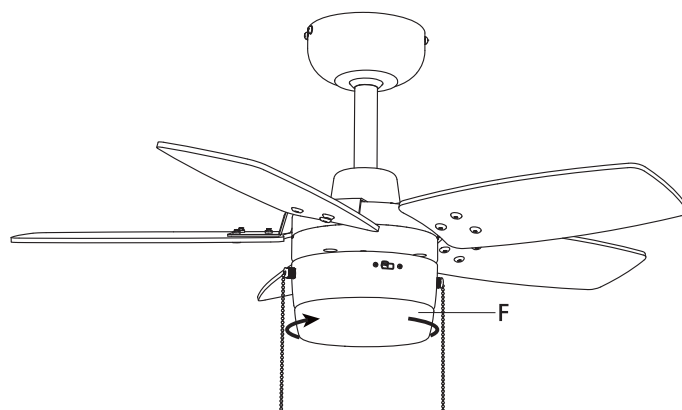

Figure 13
- Install the lamp shade (F) into the lamp-fitter by gently twisting clockwise until it locks (Figure 13).